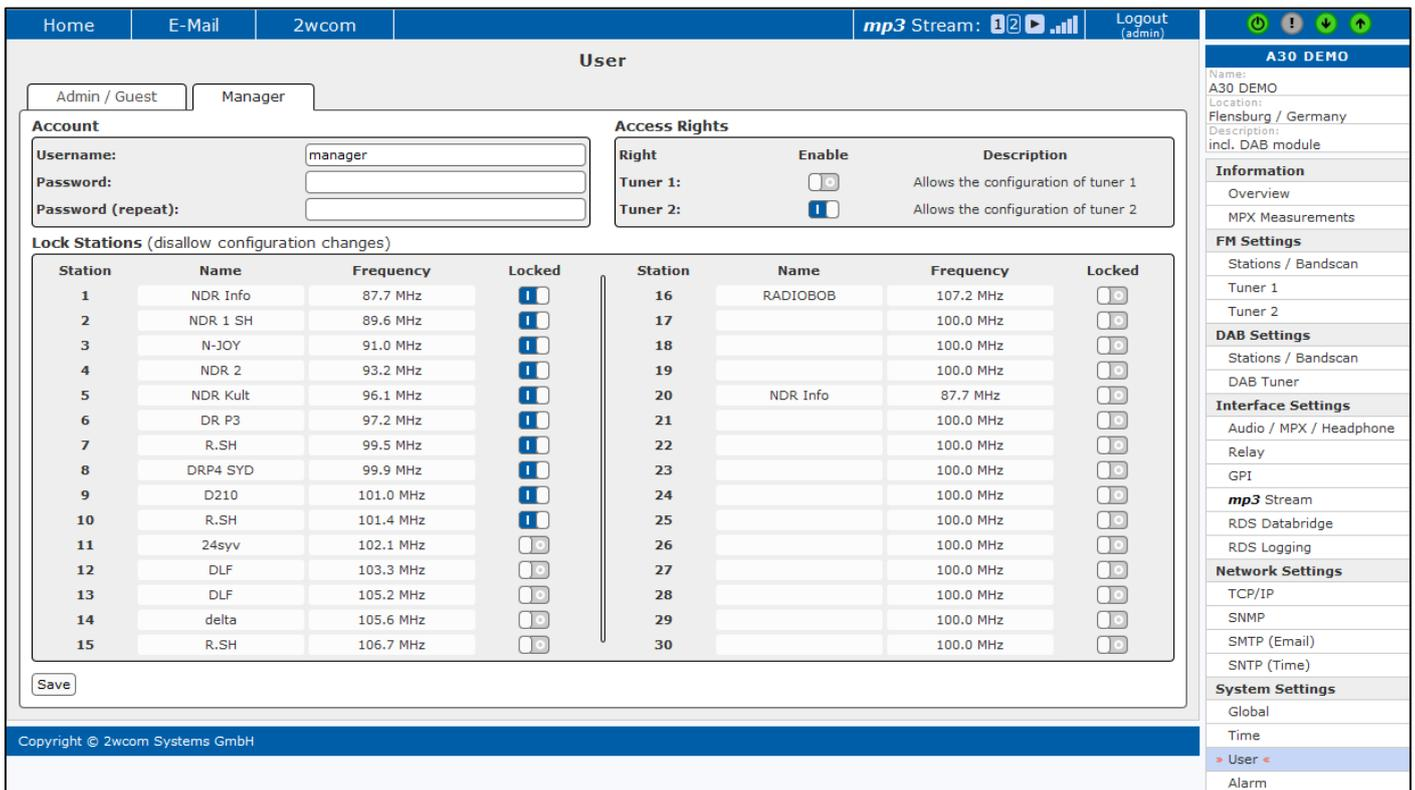

Fig. 68: Management of the User Account for Manager access
6. In the same menu in the "Manager" tab Admin can deprive Manager account of the rights for Tuner 1 or Tuner 2 and changing separate Stations (see Fig. 68).